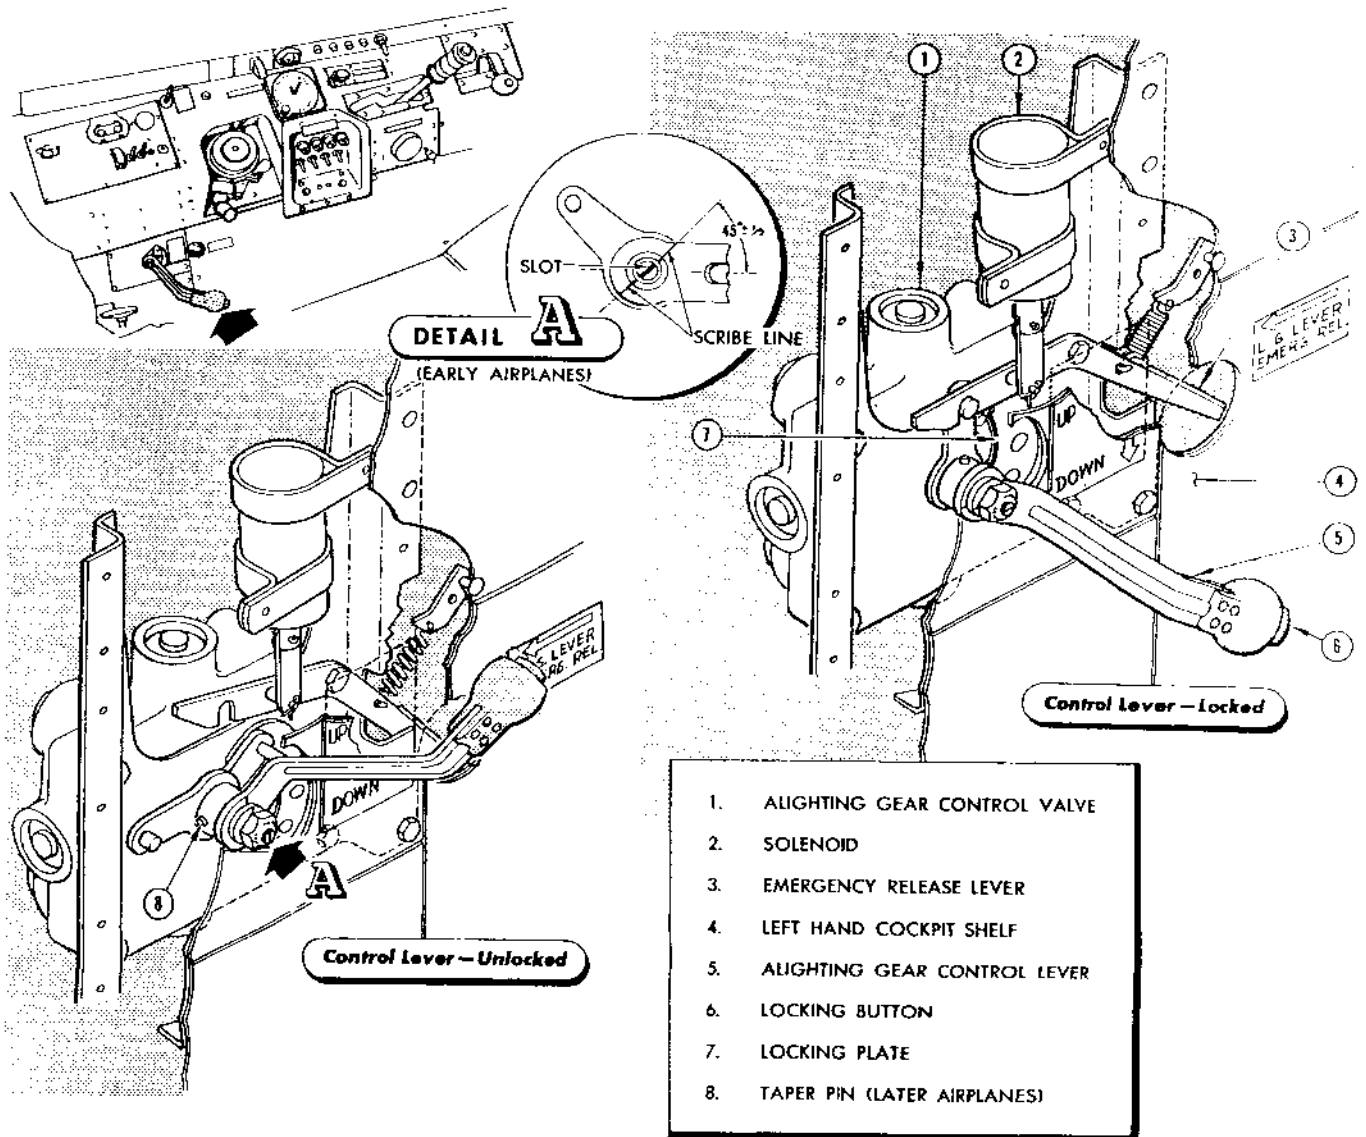

Figure 154 — Alighting Gear Selector Valve Lock
1. On early airplanes, mark the valve-end of the alighting gear control lever with a heavy scribed line. The line must be a continuation of the slot in the valve shaft. The slot in the valve shaft indicates the position of the cam lobes. *(See detail A, figure 154.)*